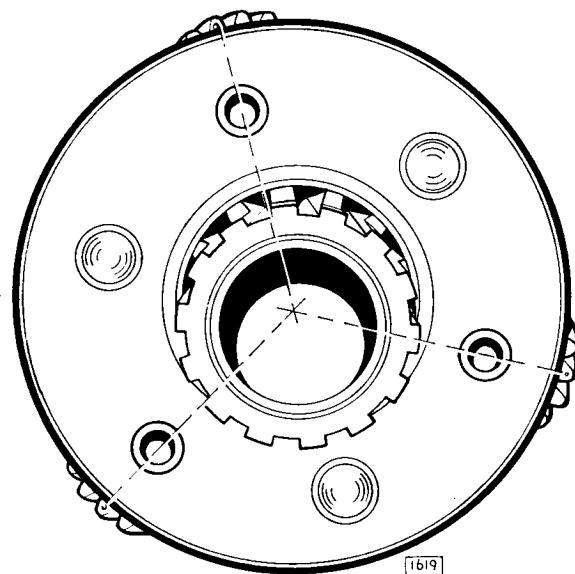

Fig. 32. Assembly of the planet gears—note the positions of the marked teeth.
4. Fit the planet carrier, with its planet gears, over the sun-wheel with the marked teeth of the planets radially outwards as shown in Fig. 32 and with the assembly in this position offer it up to the annulus.
7. Care must be taken to ensure that the thrust washers at the front and rear of the sun-wheel are replaced in their correct positions. At the front of the sun-wheel the steel washers fit next to the head of the support bush in the housing and the bronze washer between the steel one and the sun-wheel. At the rear the steel washer is sandwiched between the two bronze washers. The latter are similar and their positions interchangeable. It is essential when assembling the gear train to ensure that the planets are turned to their correct relative positions as shown in Fig. 32.